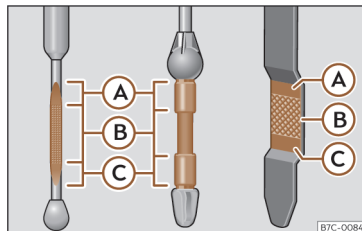

Fig. 200 Engine oil dipstick.
- Then pull it out once more and check the oil level»» **Fig. 200**. Top up with engine oil if necessary.
- When the oil level reaches at least zone >>> **Fig. 200 (B)**, unscrew the engine oil filler cap carefully >>> **ⓘ**.
If the oil level is above area >>> **Fig. 200 (A)**, do not start the engine. This could result in damage to the engine and catalytic converter. Contact a specialised workshop.
The oil level must never be above zone >>> **Fig. 200 (A)**. Otherwise oil can be drawn in through the crankcase breather and leak into the atmosphere via the exhaust system.